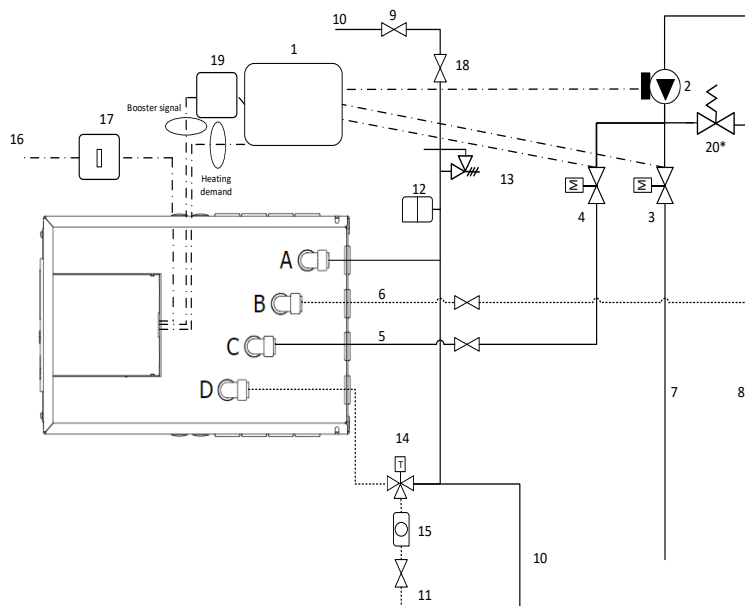

Figure 12.1: Example Wiring Option 1 Schematic (see Figure 3 for piping and electrical options available)
1. **+iLTHP option 1:** Samsung Low Temperature Heat Pump (Fig. 12.1 & 12.2)
- Run and connect 3 Core mains power supply cable (16A minimum, minimum 2.5mm² CSA) from the double-pole isolating switch to the Heat Battery controller (Figures 12.1 and 12.2).